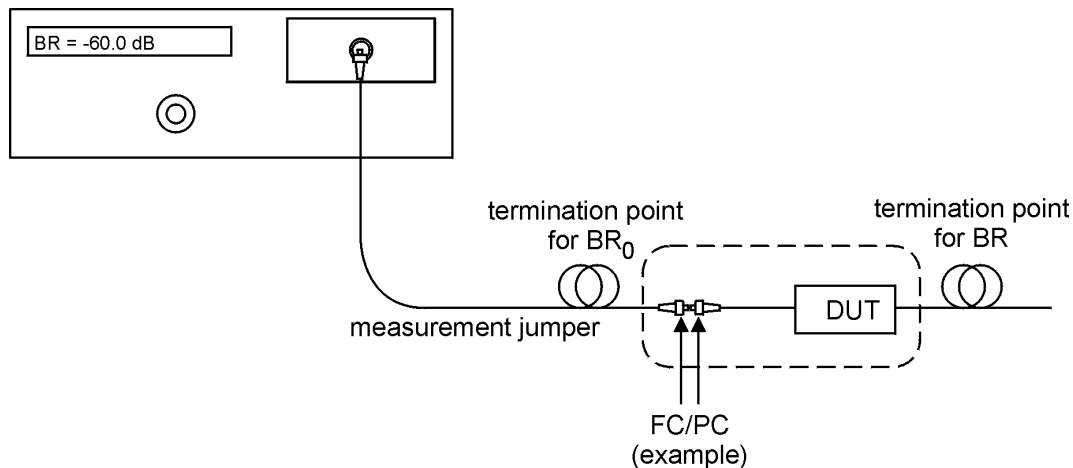
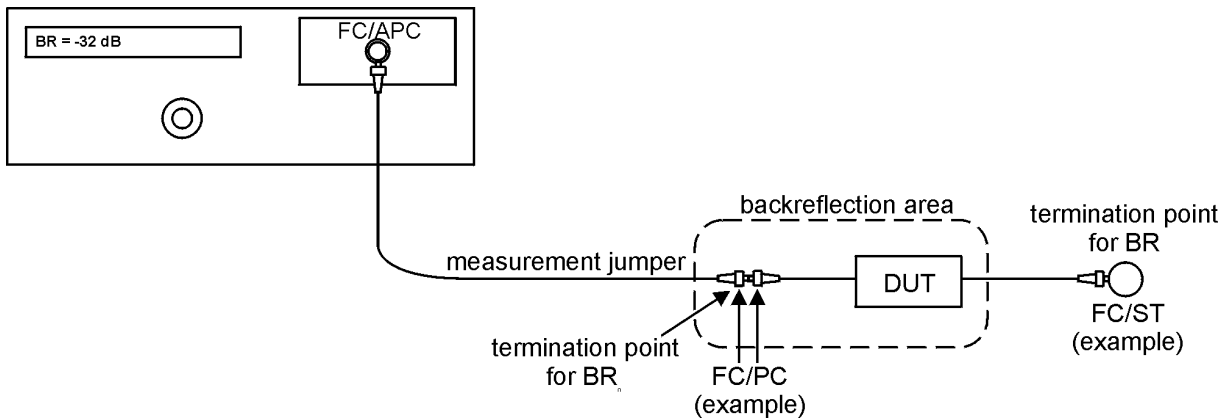

Figure 6a: Measuring Backreflection for Single-mode (except 980 nm)
Figure 6b: Measuring Backreflection for Single-mode (980 nm only) and Multimode
2. The second termination is made after the DUT in order to obtain Br_{tot} (figure 6a).
- The second termination is made after the DUT in order to obtain Br_{tot} (figure 6b).
3. Terminate the measurement jumper immediately after the DUT, and hold the termination point steady. The meter displays the backreflection between the two termination points that is caused by the fiber, all connections, and the DUT. This area is shown within the dashed line in Figure 6a for single-mode (except 980nm), and in Figure 6b for single-mode (980nm) and multimode.